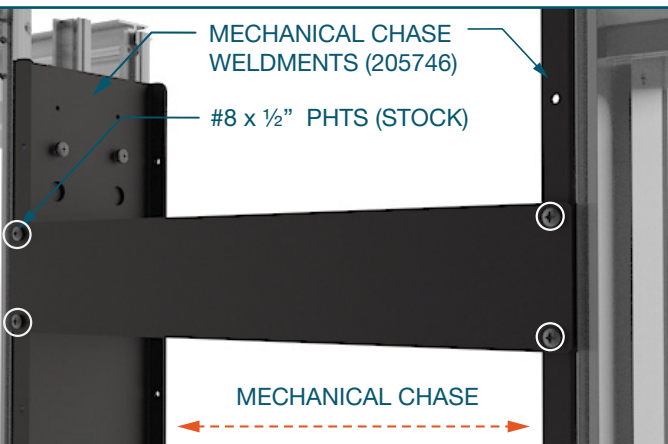

Figure 18
- B.** Fasten each plate to one side of the **chase weldment** using the **#8 x 1/2" PHTS (STOCK)** – QTY 4 per plate (Figure 18). The plates can be repositioned up or down the chase, if needed.